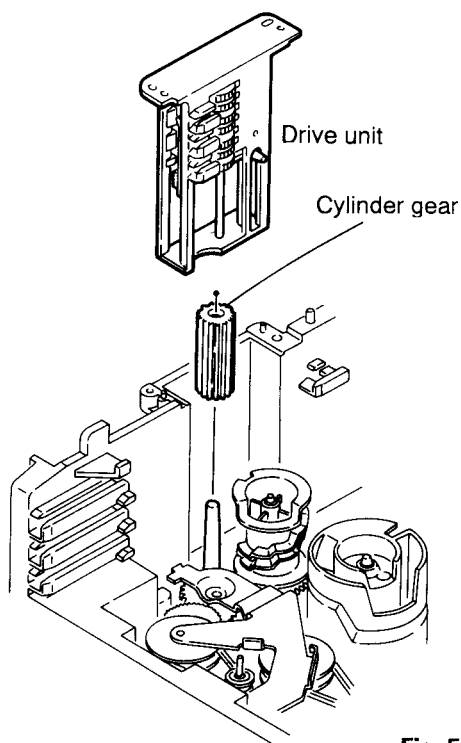

Fig. 5-38
3. Pull out the drive unit and cylinder gear (See Fig. 5-38).